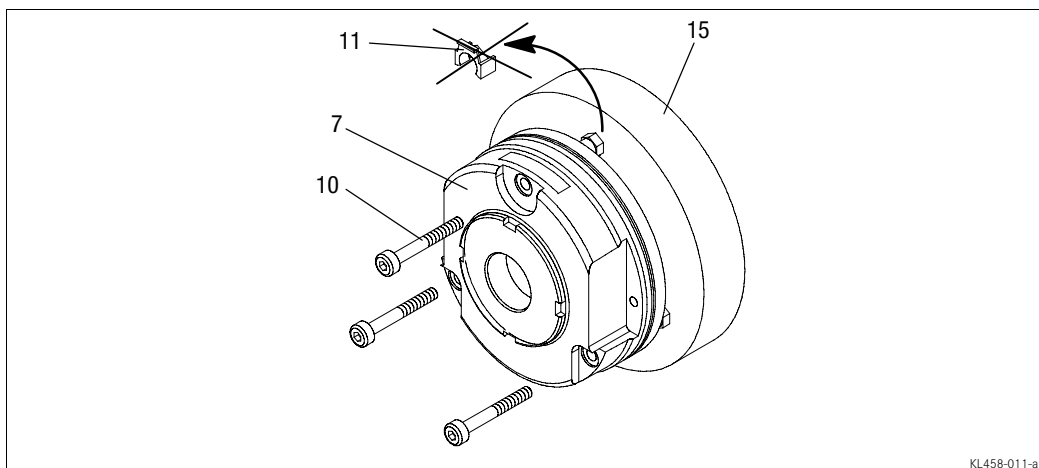

Fig. 7 Assembly of the spring-applied brake
- Screw the complete stator (7) onto the endshield (15) using the screws (10). (Fig. 7).
- Remove the clips (11) (throw away; Fig. 7).